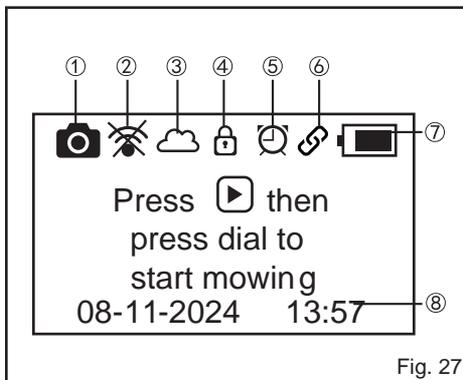

Fig. 27
- Place the mower on the base station. Make sure the mower's charging strips are fully connected with the contact strip of the base station (Fig. 24). The mower will automatically start initialization (Fig. 25). It will take about 15 seconds to complete this process. The mower will beep twice, and the LCD panel will display the Main Screen (Fig. 27).
MAIN SCREEN (FIG. 27)